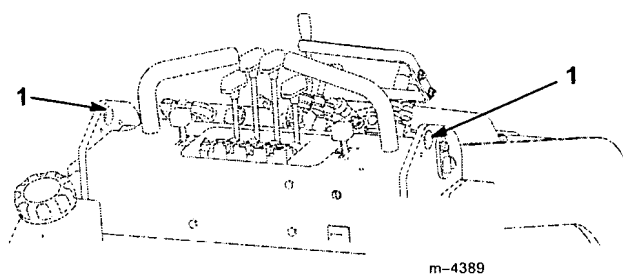

Figure 15
2. Lift the traction unit off the ground, using the two lift points (Fig. 15), and move it onto a trailer.